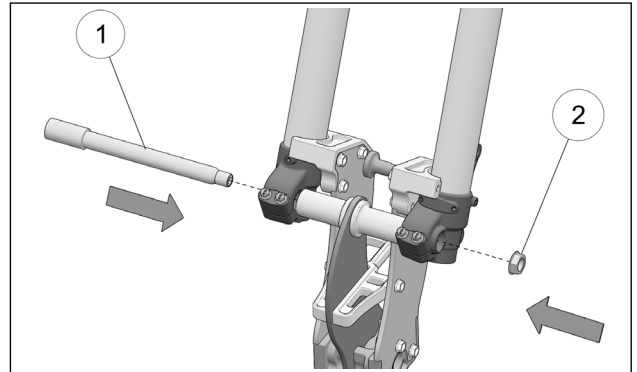

Figure 8
- Insert front wheel axle (1) through forks and axle spacers to secure spindle assembly. Install axle nut (2) and tighten temporarily by hand. Figure 8.